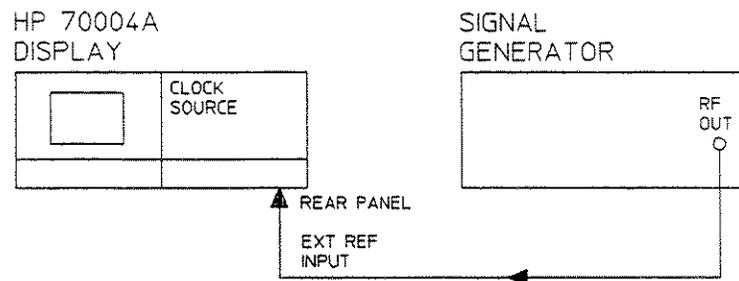

Figure 6-20. Connecting Diagram
1. Connect the equipment as shown in Figure 6-20.